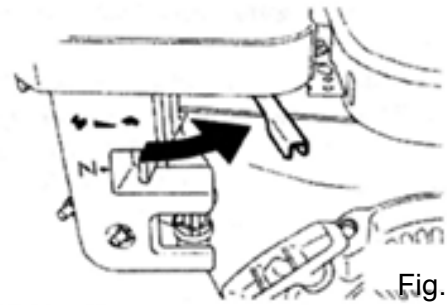

Fig. 11
1. Set the throttle lever to the low speed position and allow the engine to idle for 2–3 minutes before stopping. (Fig. 11)